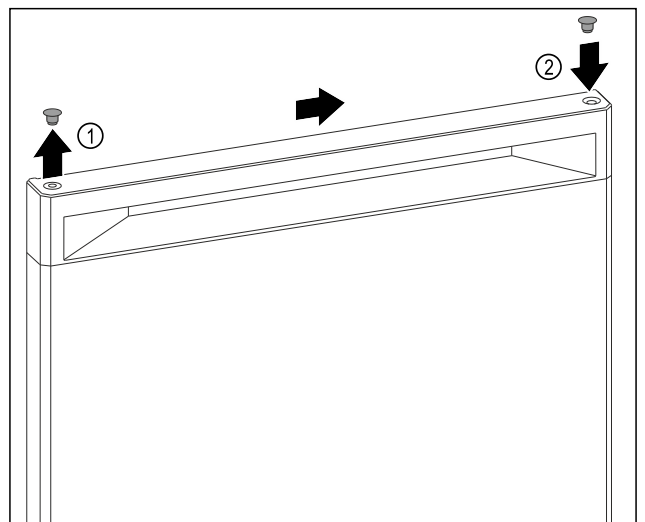

Fig. 7
- ▶ Carefully lift the cover plug on the top of the door Fig. 7 (1) using a slotted screwdriver.
- ▶ Insert the cover plug on the opposite side. Fig. 7 (2)